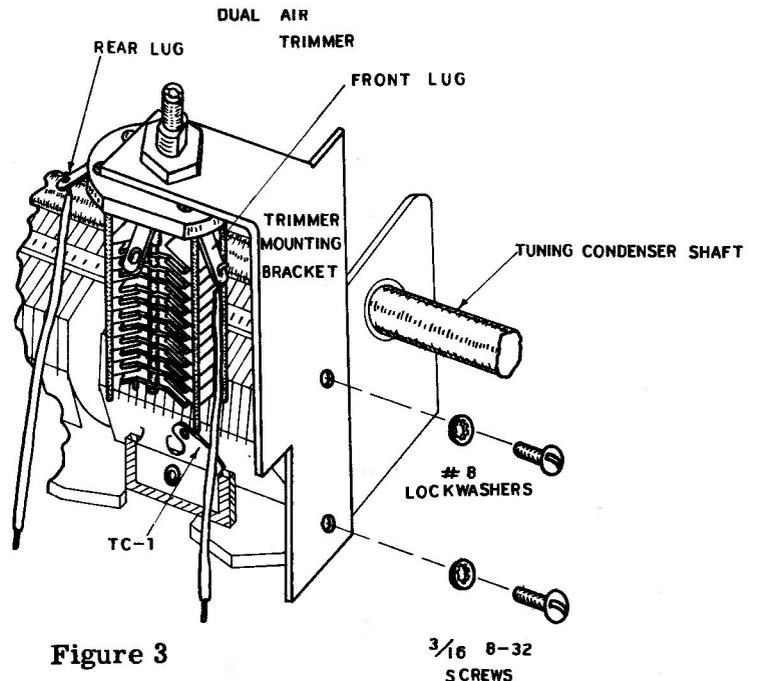

Figure 3
- ( ) With the tuning capacitor shaft facing toward you, using the two  $\frac{3}{16}$ " 8-32 screws and #8 lockwashers, mount the trimmer mounting bracket at the left front side near TC-1. See Figure 3 and Figure 4.
- ( ) Strip both ends of a 3" length of hookup wire. Connect one end to TC-1 (NS). See Figures 3 and 4.
- ( ) Slip a 1  $\frac{3}{4}$ " length of insulated sleeving over one lead of a .1  $\mu\text{fd}$  200 V. capacitor and connect this lead to TC-1 (NS).
- ( ) Connect a 1  $\frac{3}{4}$ " length of hookup wire to each of the two terminals on opposite ends of the dual air trimmer capacitor. Solder both connections. See Figure 3.